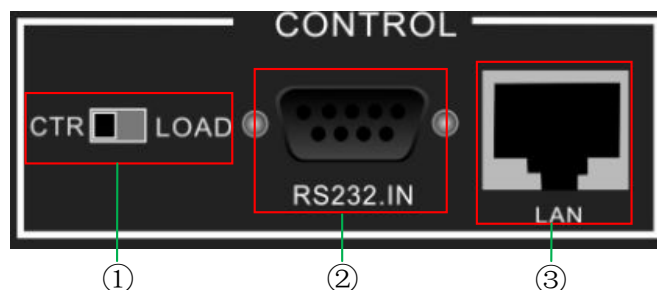

Fig 3.8 Control port
- ① DVI digital output:can connect to sending card directly
- ② VGA analog output:can connect with local LCD monitor to monitor the program output.
11. Control ports, as shown in Fig 3.8: